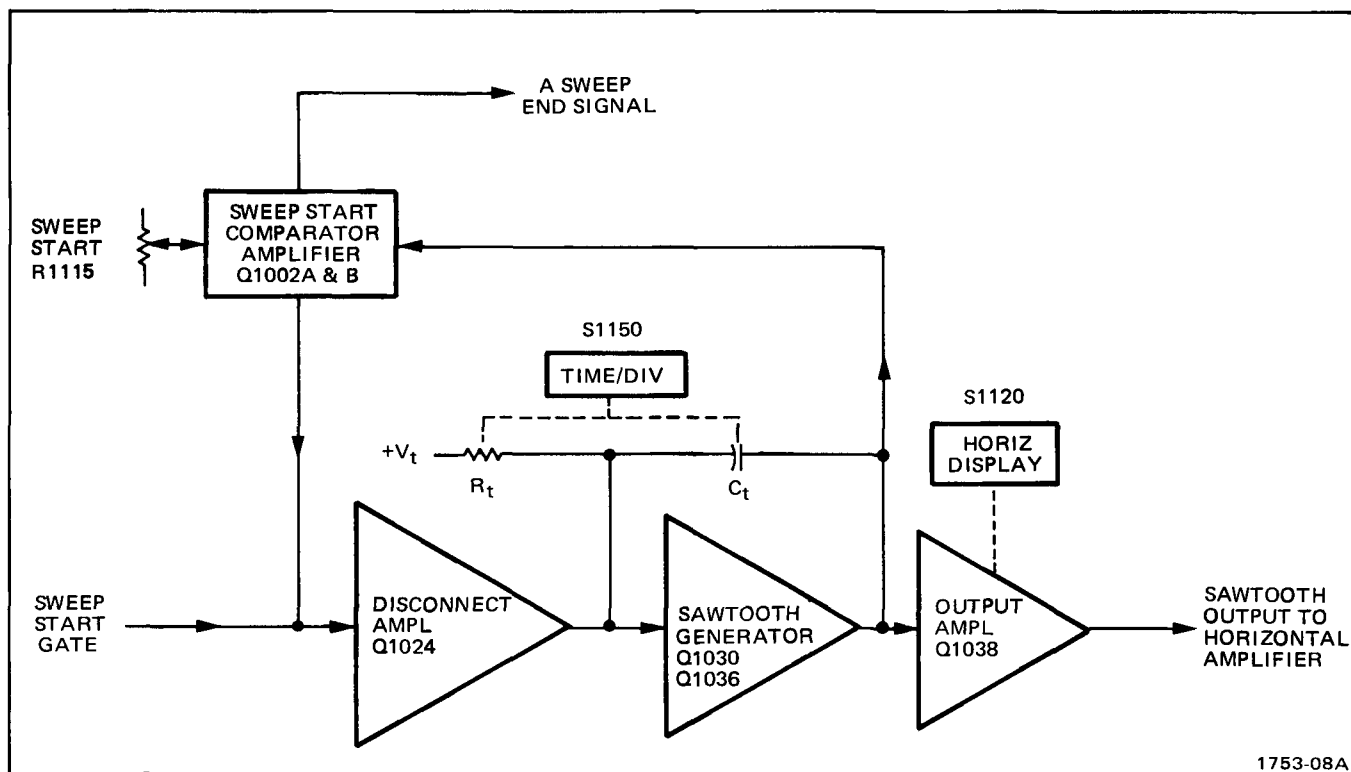

Fig. 3-5. A Sweep Generator Detailed Block Diagram.
**General.** The A and B Sweep Generators produce sawtooth voltages that are amplified by the Horizontal Amplifier circuit to provide horizontal deflection to the crt. These sawtooth voltages are produced on command (trigger pulses) from the Trigger Generator circuits. The Sweep Logic circuits also produce gate waveforms that are used by the Z Axis Logic circuit to unblank the crt during sweep time and produces waveforms to start and stop the sweep generator. Fig. 3-5 shows a detailed block diagram of the A Sweep Generator circuit. The B Sweep Generator circuit is very similar to the A Sweep Generator; therefore only the difference in operation associated with the B Sweep Generator will be discussed. A schematic of both circuits is shown on diagram 6 at the rear of this manual.